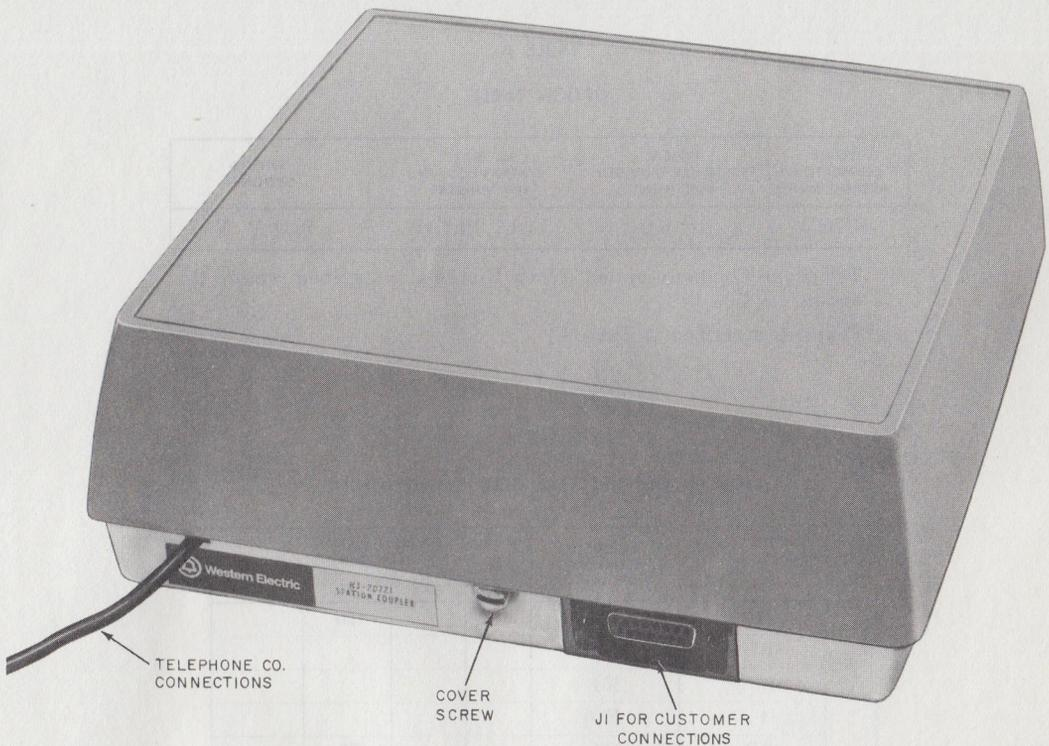

Fig. 1—KS-20721, List 1, Station Coupler
- Coupler, Station, KS-20721, L1 (Fig. 1 and 2)
**3.02** A 15-pin connector (J1, Fig. 1) is located on the base of the unit to connect the pulsing and muting leads to the CPE. The mating ITT-Cannon Electric or Cinch Mfg. Co. plug No. DA-19603-403 with hood No. DA-51225-1 is customer provided. Screw terminals on the left side of the printed circuit board provide connections to dial and receiver of the telephone set, and 2012B power transformer (or power supply). Flexible jumper leads with connectors provide for installation options.